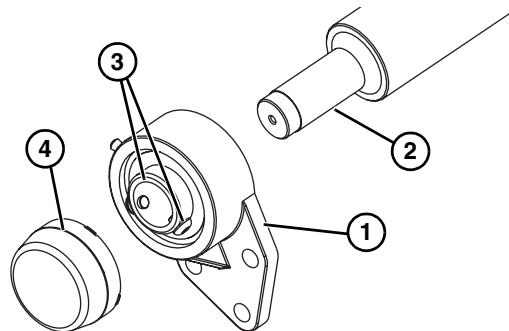

Figure 96
1. Slide the bearing flange assembly (Figure 96, item 1), onto the spindle shaft end (Figure 96, item 2).
2. Use a hex wrench to tighten the bearing shaft assembly fasteners (Figure 96, item 3).
3. Install the bearing cover (Figure 96, item 4).